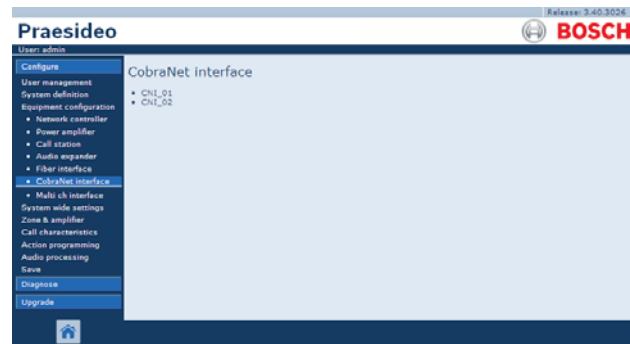

figure 43.34: Configure CobraNet interface step 1
- 1 Go to *Configure > Equipment configuration > CobraNet interface*. A screen similar to the one in figure 43.34 appears in the main frame of the web interface.